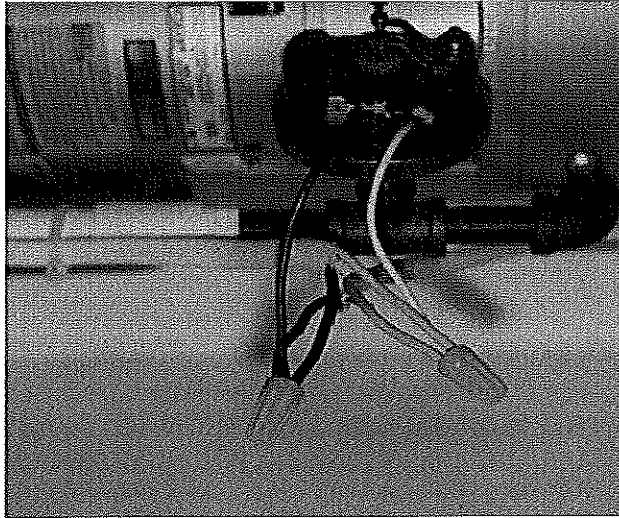

Fig. 4.3
- 4.30 PRESSURE SWITCH ASSEMBLY (Fig. 4.3)